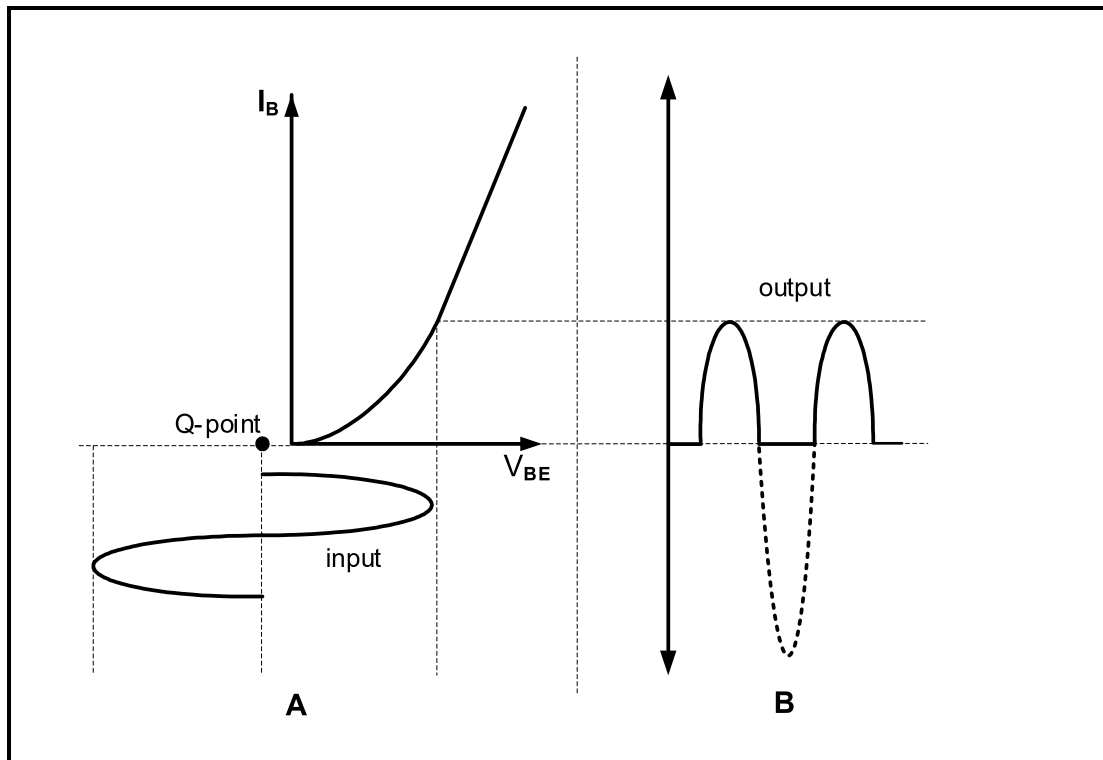

FIGURE 6.3: CHARACTERISTIC CURVE OF A BIPOLAR JUNCTION TRANSISTOR (BJT)
- 6.3 Refer to FIGURE 6.3 and state the class of biasing that the characteristic curve in FIGURE 6.3 at **B** represents.